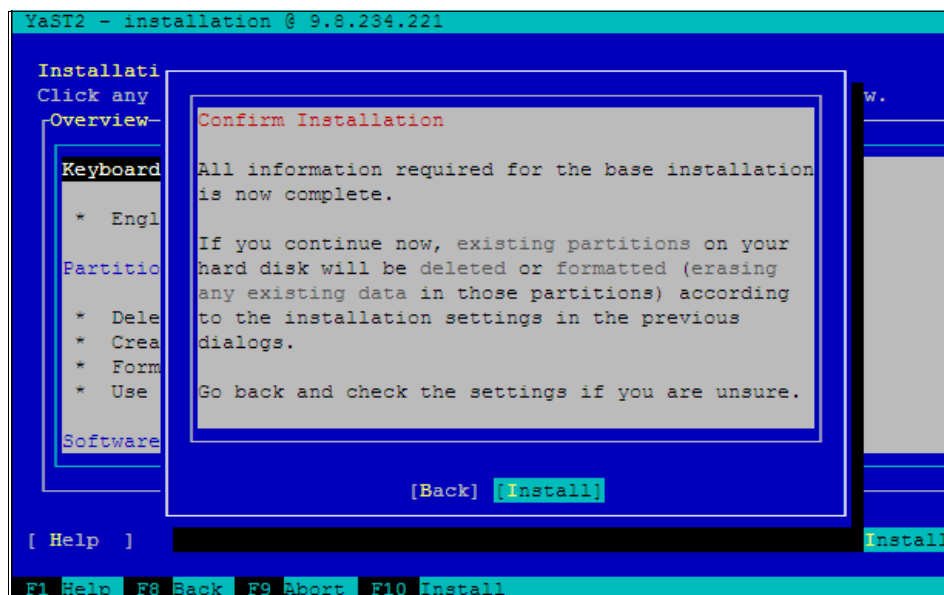

Figure 9-22 Confirm Installation
16. Choose **[Install]** to start the installation, as shown in Figure 9-22 on page 383.